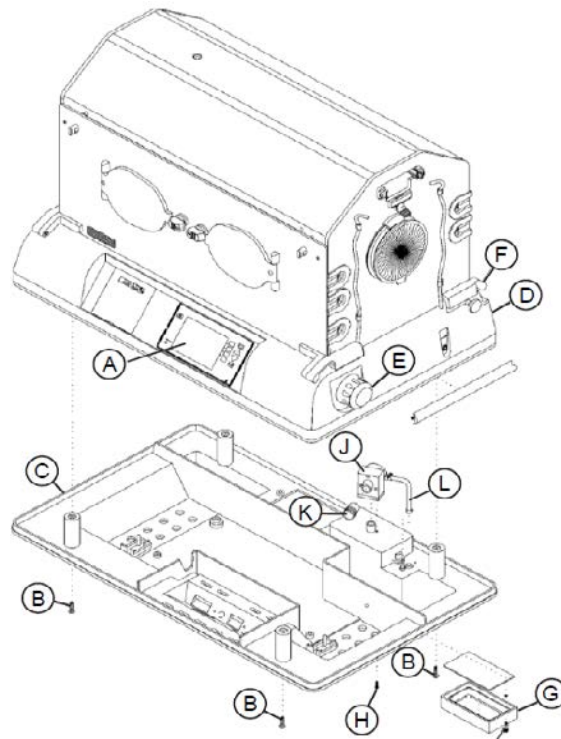

Fig. 61 Fresh Air Valve Assembly
- 26 Using pliers, disconnect the braided hose (Fig. 61/L) from the servo oxygen assembly (if present) or the oxygen inlet fitting (if present).
- 27 Remove the air intake microfilter cover (Fig. 61/G) and the air filter.
- 28 Remove the screw (Fig. 61/H) that secures the fresh air valve assembly (Fig. 61/J) to the shell bottom (Fig. 61/C). **The screw (Fig. 61/H) should be reused, but with a new application of Loctite 242.**
- 29 Remove the fresh air valve assembly (Fig. 61/J) from the shell bottom (Fig. 61/C).